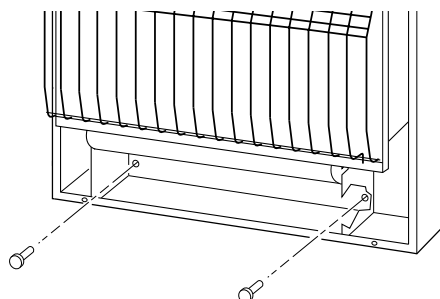

Figure 12 - Installing Bottom Mounting Screws
- Locate two bottom mounting holes. These holes are near bottom on back panel of heater (see Figure 12).